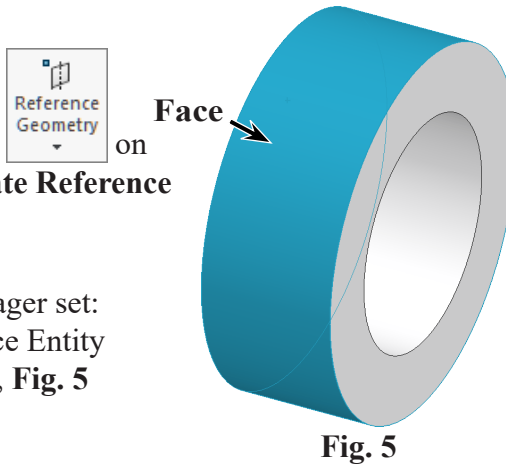

Fig. 5
Step 2. In the Mate Reference Manager set: under **Primary Reference Entity** click **cylindrical face**, Fig. 5 click OK.